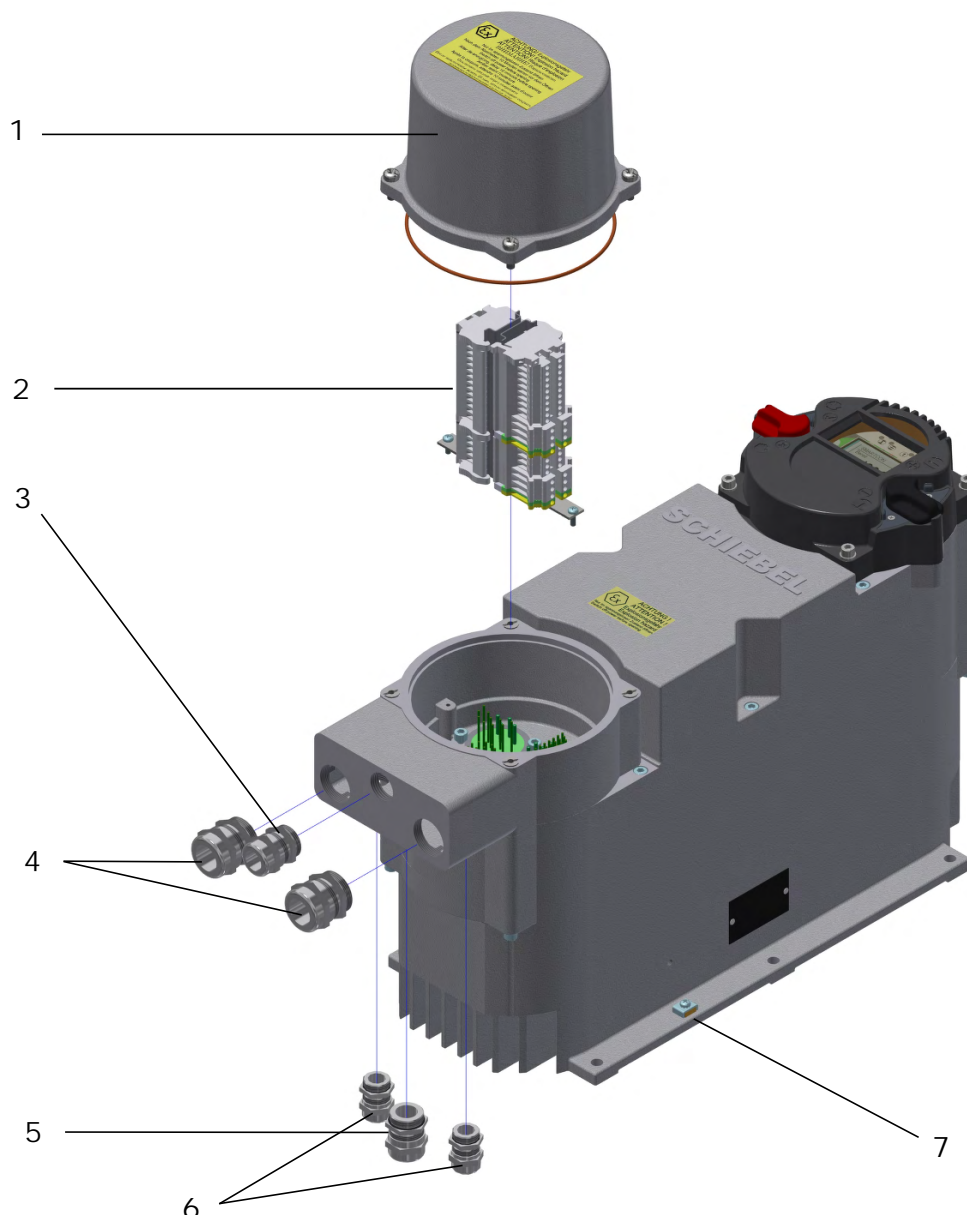

Figure 3: Connection Ex-version
- For (ex-design) or on sepcial order, the connection is made with terminals! (see Figure 3): The maximum conductor cross-section for the control signals is 2.5 mm and 4mm² for the power connection